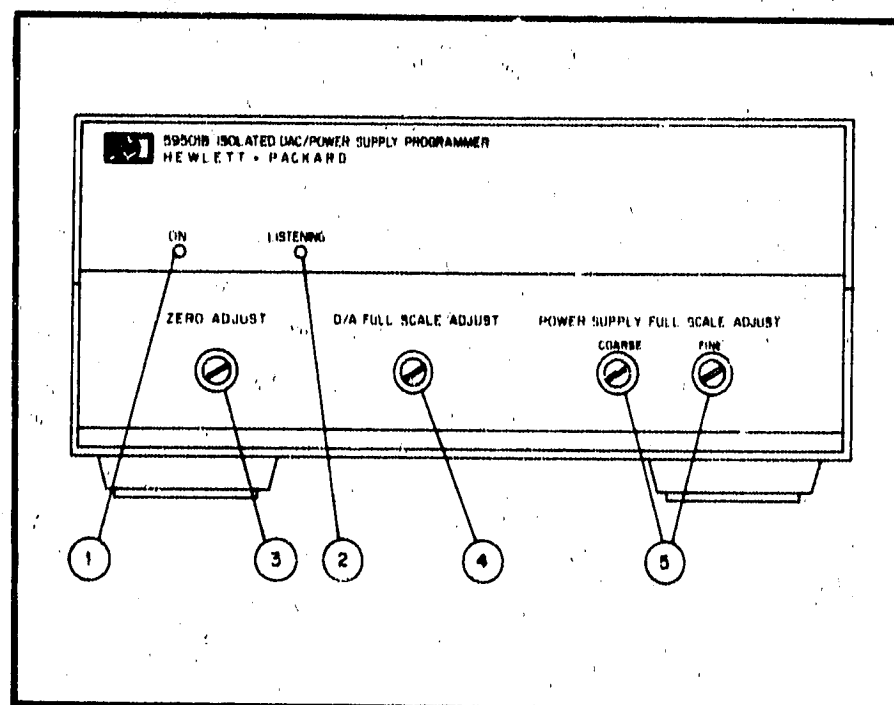

Figure 3-1. 59501B Front Panel
3-7 The 59501B front panel contains a power on indicator, a status indicator and four controls (screwdriver adjustments) as shown in Figure 3-1.
3-8 The power on (ON) indicator ① (Figure 3-1) lights and the 59501B's internal supply voltages (+15V,  $\pm 15V$ ,  $V_{dd}$ ) are present when the line cord is plugged-in.